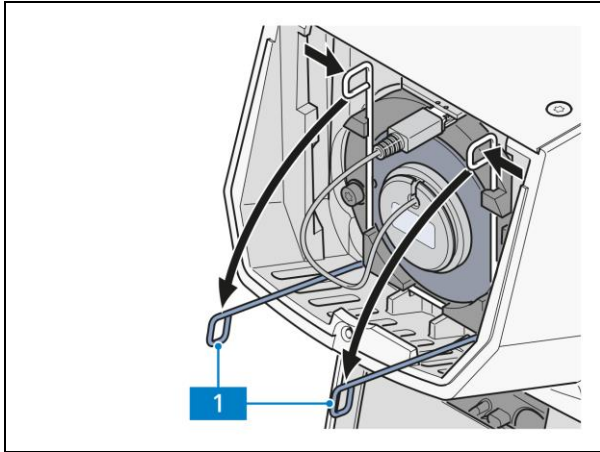

Fig. 3-22 Swinging the loops out
- Press the loops (Fig. 3-22/1) on the securing clips of the lamp holder together and swing them out to the front.
- Lift the securing clips (Fig. 3-22/1) of the lamp holder until they are completely enclosed in the lamp holder. In doing so, slightly press the ends of the securing clips together and guide past the two upper retaining elements. Release the pressure until the clamping bracket opens and engages on both sides in the retaining elements.